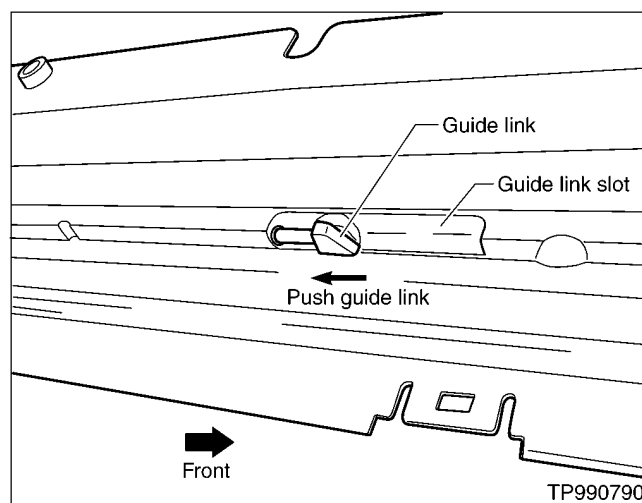

Figure 9
10. If damaged or missing, install new guide links in the guide link slots (see Figure 9).